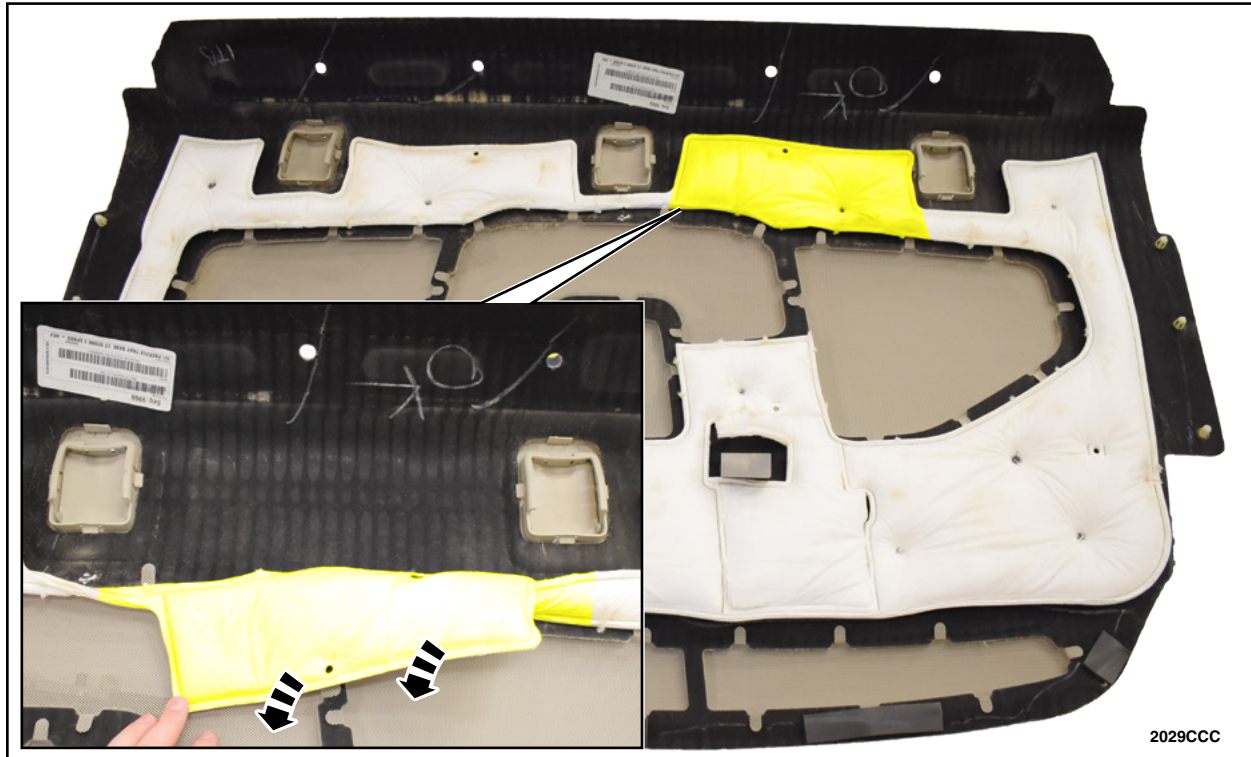

FIGURE 8
9. Place the parcel shelf on a work bench. Fold back the foam pad. See Figure 8.